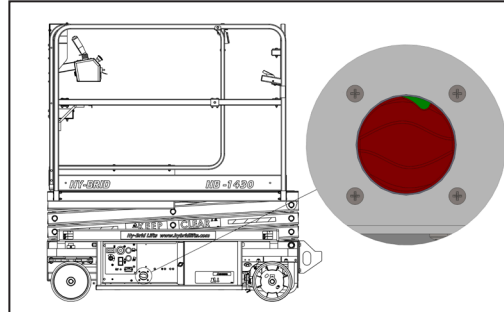

FIGURE 13: Main power switch
2. Grip the Slide Lock Handle (Figure 13) to allow the deck to slide.